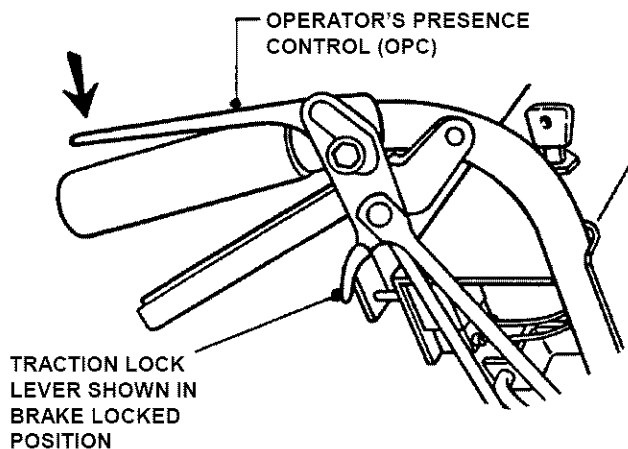

FIGURE 3.7
8. **PISTOL GRIP** - Depress Operator's Presence Control (OPC) against handle. See Figure 3.7.